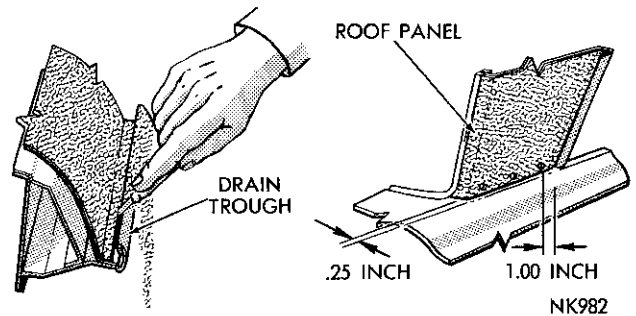

Fig. 176—Trimming Cover at Sides
(17) Install the sealing screws, 15 per side, and remove the body clamps.
(18) Trim the cover along the drain trough using the inboard face of the drain trough as a guide (Fig. 176).
(19) Trim the cover on a line $\frac{1}{4}$ inch below the belt line moulding holes and curving upward to meet the drain trough (Fig. 176).